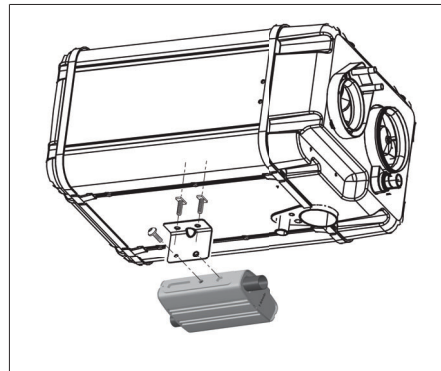

Fig. 39 Exhaust silencer mounted on a heater
- The silencer may be mounted on the vehicle chassis. It may also be mounted on the heater (see Fig. 39).